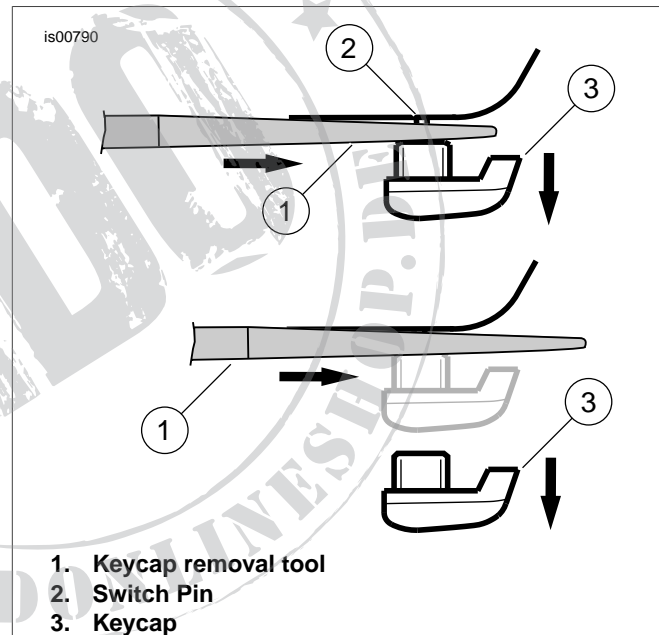

Figure 8. Lower Switch Housing Keycap Removal
6. See Figure 8. To remove the Mode select keycap (3), use the long end (1) of the keycap removal tool. Insert the tool under the keycap and push tool outward until keycap is disengaged from the switch pin (2).